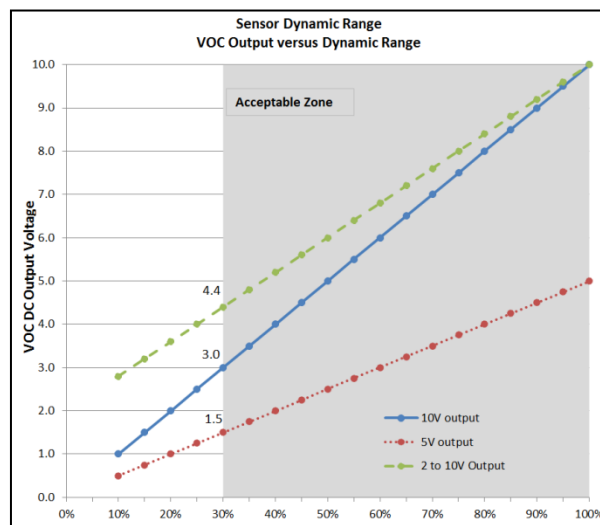

Figure 3: Acceptable Dynamic Range Output
- The VOC algorithm requires a dynamic range of greater than 30% for proper operation. Sensors reporting a dynamic range of 30% or less should be considered for replacement. (see Figure 3)